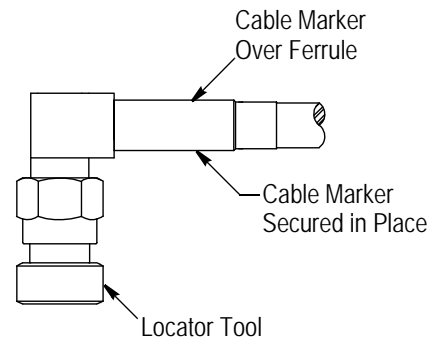

Figure 6
1. Position the cable marker over the ferrule. See Figure 6.